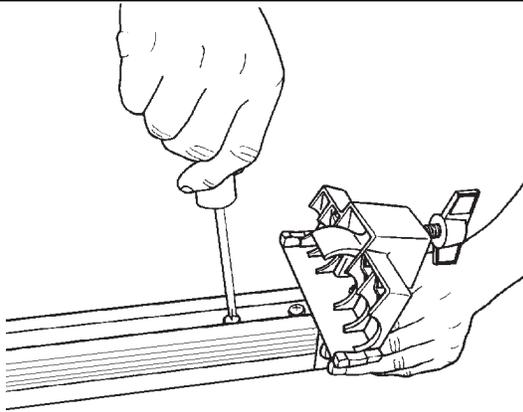

Figure B-97
- b. Use a medium Phillips screwdriver to loosen the two screws (225) near the fence base, so they are just tight enough to require firm pressure to align the fence. See Figure B-97.